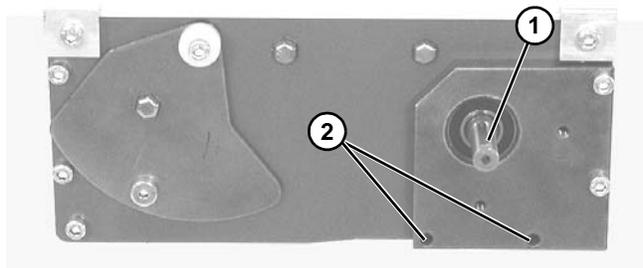

Figure 6
- Locate drive output shaft (**Figure 6, item 1**) and remove two (2) screws (**Figure 6, item 2**).